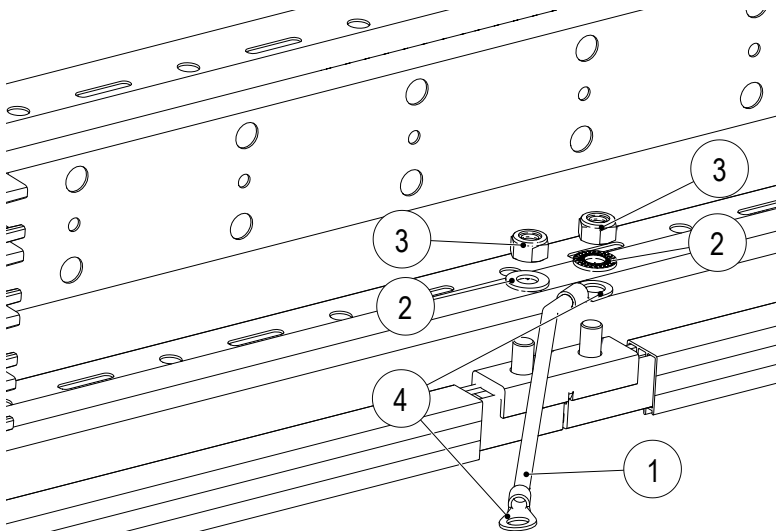

Fig. 57: Install PE cable (1) on PE rail connector
1. Attach a ring terminal (4) to each end of the PE cable (1) (see Fig. 57).
2. Tighten the PE cable (1) with locking edge washer (2) and hexagon nut (3) to the connector bolts of the PE rail with a torque wrench (SW 13, torque: 12 Nm) (see Fig. 57).